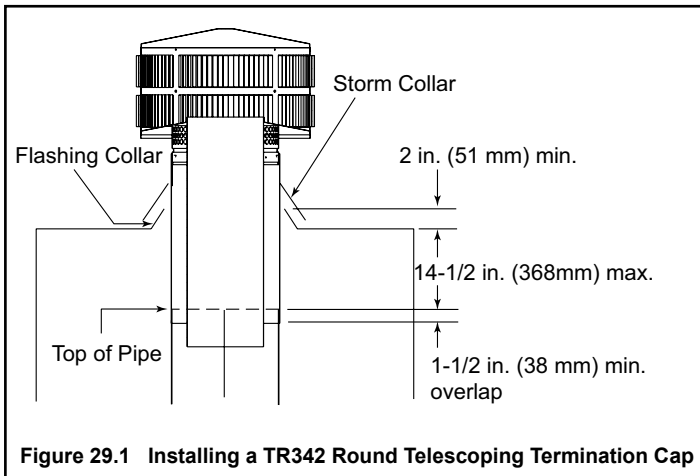

Figure 29.1 Installing a TR342 Round Telescoping Termination Cap
- For installations utilizing a Round Telescoping Termination Cap, the uppermost chimney section must be below the top of the chase top, but not more than 14-1/2 in. (368 mm) below the top of the chase top. Minimum overlap of chimney and termination cap must be 1-1/2 in. (38 mm). See Figure 29.1 on page 29.